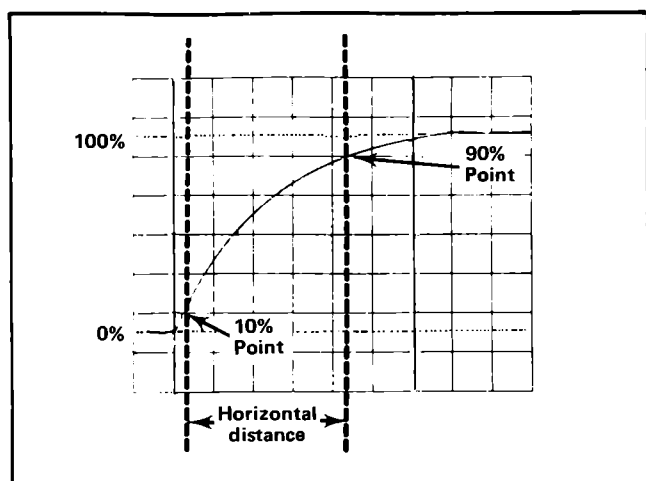

Fig. 2-9. Measuring risetime.
4. Set the time-base triggering controls to obtain a stable display. Set the Sec/Div switch to the fastest sweep rate that will display less than eight divisions between the 10% and 90% points on the waveform (see Fig. 2-9).